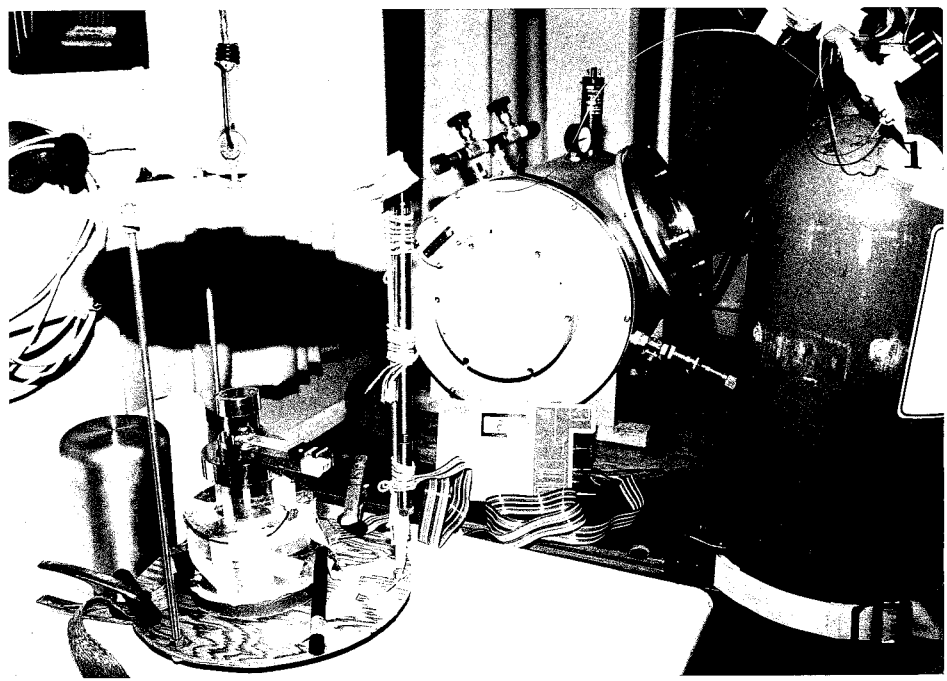

FIGURE 1
- Figure 1:** Scanning Tunneling Microscope apparatus with MMR refrigerator installed to sample mount.